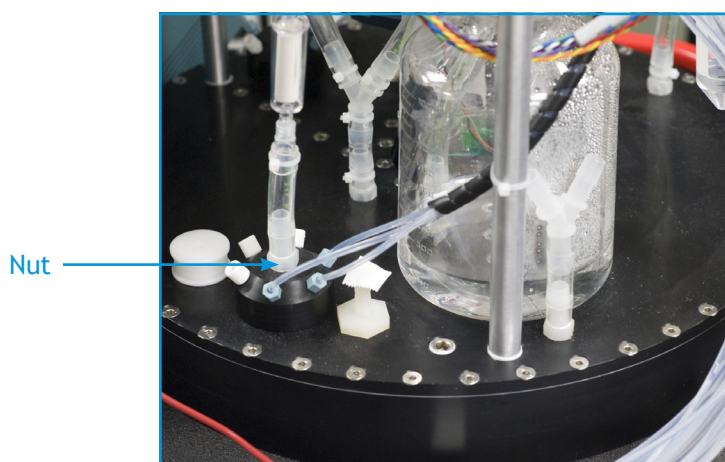

Figure 5-4: Opening to waste container
3. Using a 9/16-inch box wrench, loosen the nut for the air-filter assembly from the manifold to the first waste container to be emptied. See Figure 5-4.